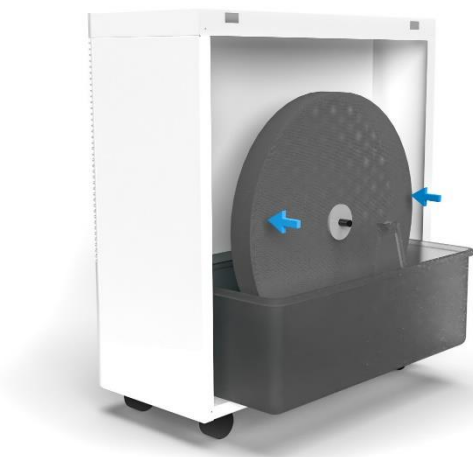

Fig. 4.2.7: Inserting the evaporative filter disc and water tank into the unit
6. Insert the evaporation filter disc (☞ see "Fig. 4.2.7" on page 19).
8. Place the evaporation filter disc in the water tank (Fig. 4.2.7) and fold the electrode rods down.